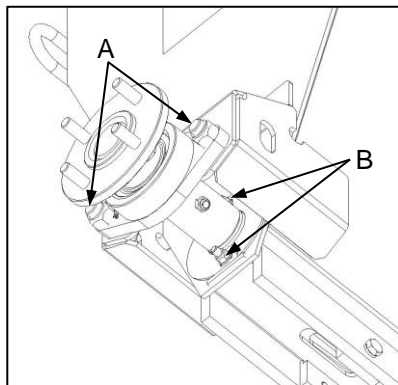

Fig. 3
- ✔ Remove the wheel bearing mounting bolts (Fig. 3-A) and the shaft cover plates (Fig. 3-B).
- ✔ Verwyder die wielkoeëlaermonteerboutte (Fig. 3-A) en die as-dekplate (Fig. 3-B).